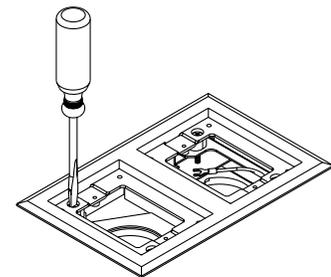

Figure 5
5. Tighten flange to adaptor using a screwdriver. **Do not over tighten flange. Tighten until flange is snug to carpet or tile surface** (see Figure 5).